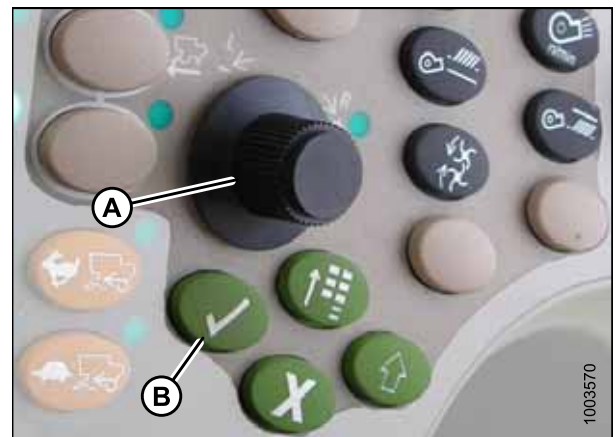

Figure 3.315: John Deere Combine Control Console
7. Select HEADER in box (A) by scrolling down to the box using the scroll knob, and then pressing the check mark button (knob and button are shown in Figure 3.315, page 197).
8. Scroll down to the lower right icon that resembles an arrow in a diamond (B) and press the check mark button to select it.